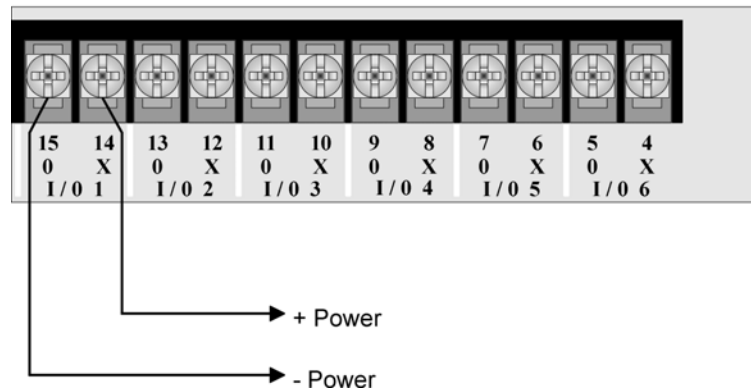

Figure 3.16 Flexput Circuits Used as Auxiliary Power
1. Wire the Flexput circuit(s) that will be used for the auxiliary power. See Figure 3.16 for location of Flexput circuits.